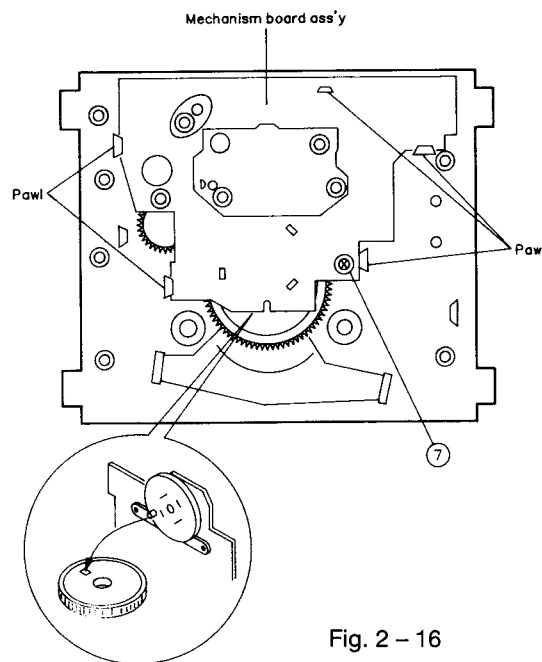

Fig. 2 – 16
◆ **Control cam** (Fig. 2 – 17, 2 – 18)
1. Release the control cam from two pawls. (Fig. 2 – 17)